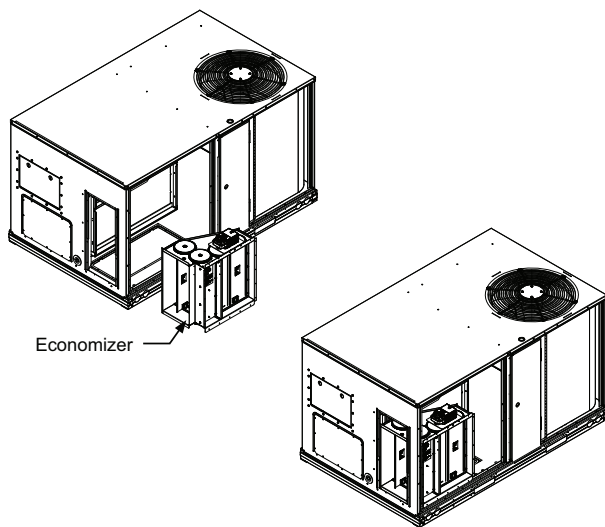

Fig. 3 — Economizer Installed in R/A Section
4. Slide the EconoMiSer X assembly into the rooftop unit. (See Fig. 3.)
5. Slide the EconoMiSer X assembly all the way back and into the horizontal R/A (Return Air) opening. (See Fig. 3.)